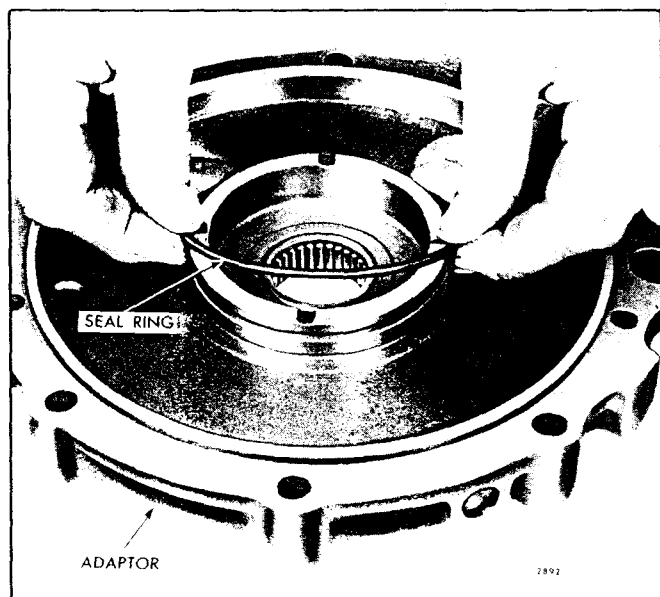

Fig. 76 - Installing Reverse Clutch Piston Seal Ring in Adaptor
- d. Lubricate the reverse clutch piston inner seal ring with engine oil; then, install the seal ring in the groove in the hub of the gear housing adaptor as shown in Fig. 76.